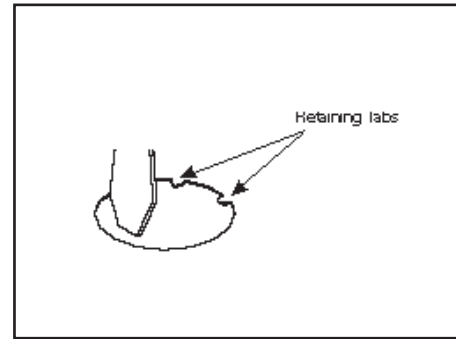

Figure 1
- 1) With the power turned off at circuit breaker box, position Mounting Plate (12) near the junction box and feed supply wires through center hole, position with installed Screw threads facing outward and rotated to correct fixture orientation. Secure using 1-1/2" Screws (11) provided.
- 2) Remove diffuser (14) from housing (1) near one end of housing, grasp edge of diffuser and carefully squeeze to release diffuser from housing. Continue down length of diffuser to fully disengage.
- 3) To access wire way, Open cover (2) by removing center screws (3) and compressing the sides to dis-engaging from the Fixture Housing (1). Rotate cover open to expose wire way.
- 4) On back of fixture, remove 7/8" knockout at center of fixture by placing straight blade screwdriver on knockout and striking sharply with hammer (Always wear safety glasses when hammering). Remove slug by flexing back and forth with pliers. See Fig 1.